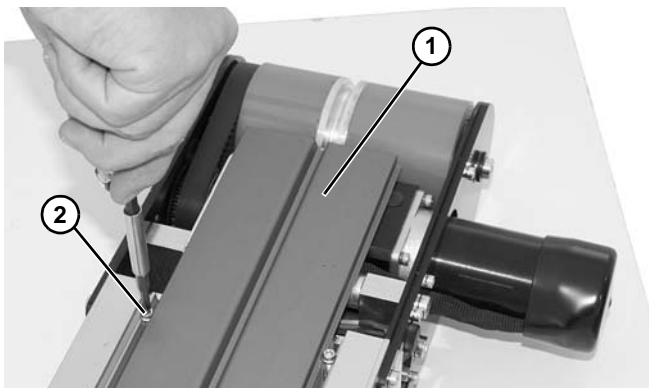

Figure 153
- Remove wear plate (Figure 153, item 1) by removing plate fastening screws (Figure 153, item 2) on each side and end of conveyor